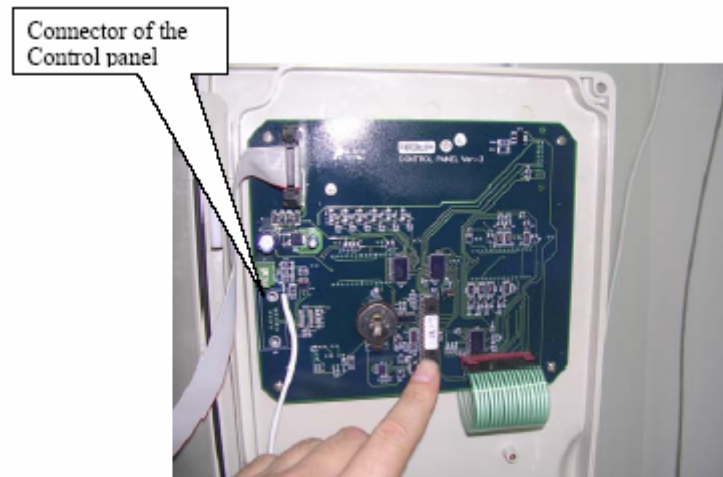
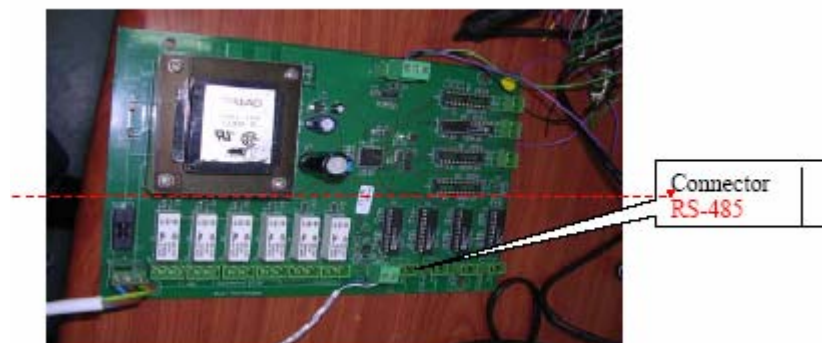

Figure 1: Controller Control Panel and RS485 Connection
Figure 2: 4 to 20 mA Module with Power Supply and RS485 Connection
6. Locate the RS485 connections on the controller control panel (electronics card on the controller door) and the 4 to 20 mA module, Figure 1 and Figure 2.